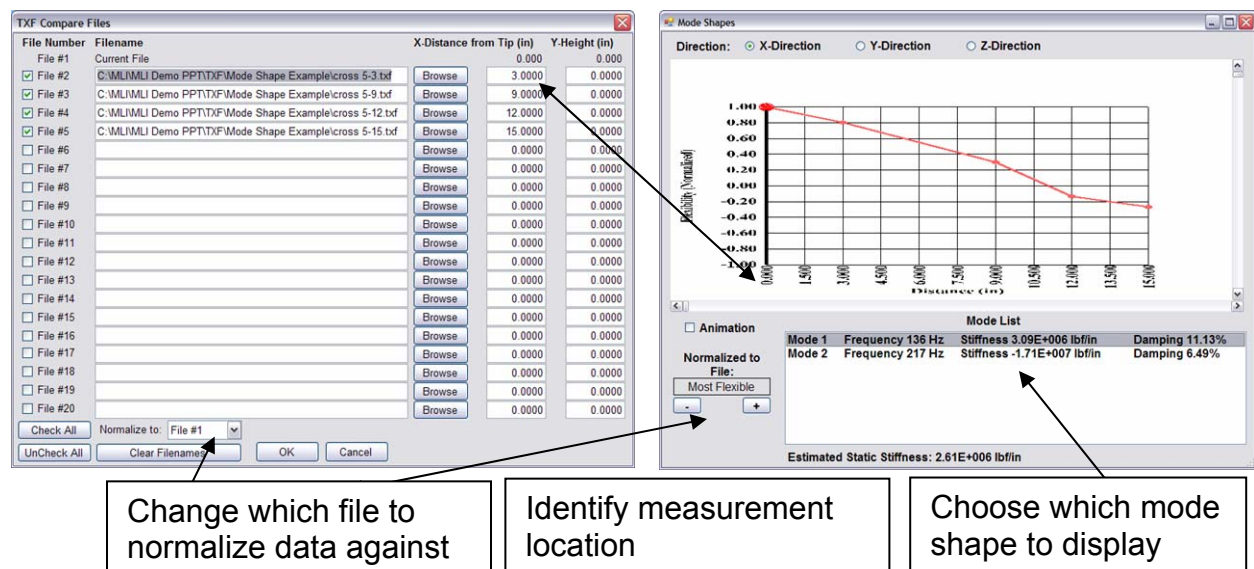
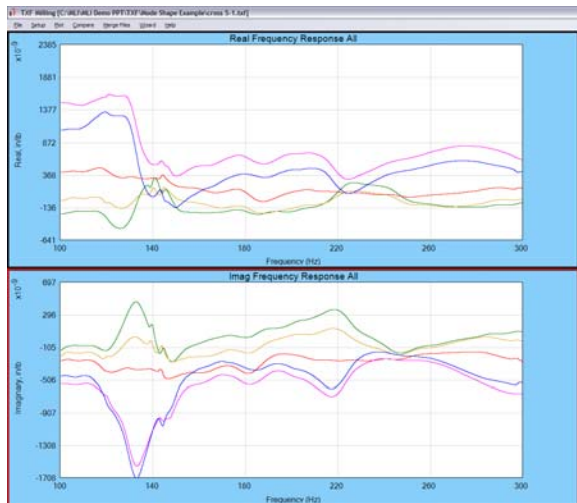

Figure 55: 3D Mode Shapes
Figure 56: Compare – Real/Imaginary – All, showing 5 measurements for Mode shape generation
The example shown in Figure 55 shows a 2D shaft mode where a set of measurements was made along a tool at distances 3", 9", 12", and 15" from the tool tip. The master file should be the direct measurement at the tool tip. The impact was made in the X direction. As seen Figure 56 in there are two dominant frequencies and therefore two mode shapes generated and displayed in Figure 55.
- Choose Compare – Real/Imaginary – All to view all the measurement files in one plot, as show in Figure 56.
- Choose Compare – 3D mode shapes to see the mode shapes as show in Figure 55.